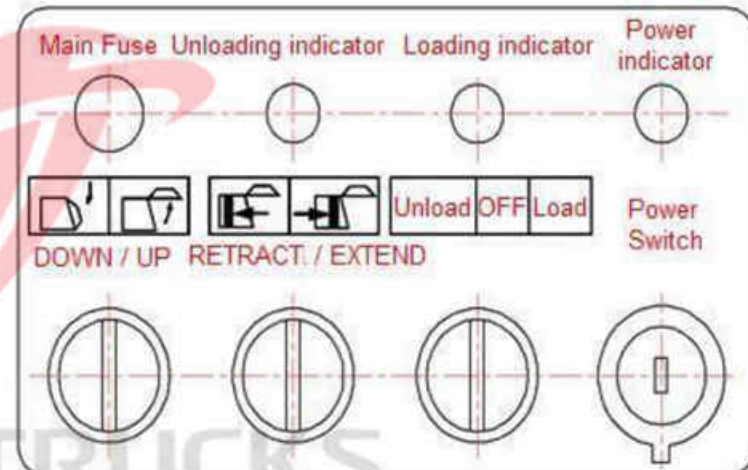

Figure 2、 Cabin Main Control Box
1) 、 In Cabin, Turn Main Control Box UNLOAD / LOAD Switch (Figure 2) into LOAD, the Loading indicator light on
Operate the PTO by above steps, and then turn on the POWER SWITCH (Figure 2)
① In Cabin, Turn Main Control Box UNLOAD / LOAD Switch (Figure 2) into UNLOAD, the Unloading indicator light on
- ② Turn "Tailgate DOWN / UP" Switch (Figure 2) into UP, and keep in this position, then rear tailgate start lifting, when tailgate lifting at extreme position, release the switch and tailgate stop lifting.
- ③ Turn "Push Plate RETRACT / EXTEND" Switch (Figure 2) into EXTEND, and keep in this position, then push plate start discharging garbage, when all garbage discharged; Turn "Push Plate RETRACT / EXTEND" Switch (Figure 2) into RETRACT, and keep in this position, then push plate start moving back, and release the switch when push plate re-tract at least 50cm.
- ④ Turn "Tailgate DOWN / UP" Switch (Figure 2) into DOWN, and keep in this position, then rear tailgate start going down, when tailgate down at extreme position and being locked, release the switch and tailgate stop going down